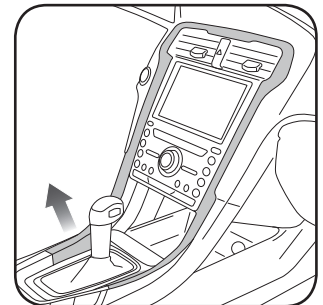

Fig. 1.4
4. Unclip and remove the trim surrounding the center dash. (Fig. 1.4)